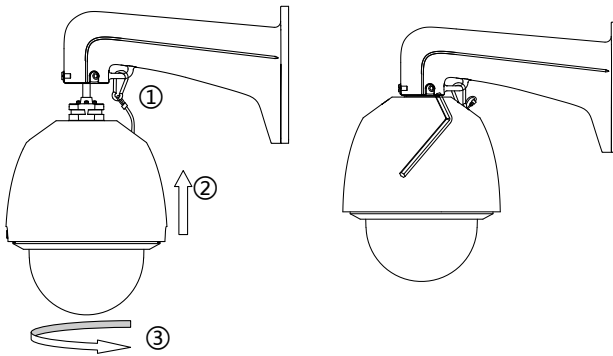

Figure 1-7 Install the Speed Dome
1. Hang the safety rope to the speed dome, and then hook it to the mount as shown in Figure 1-7 (left).
5. Fasten the two lock screws with the Allen wrench, as shown in Figure 1-7 (right).